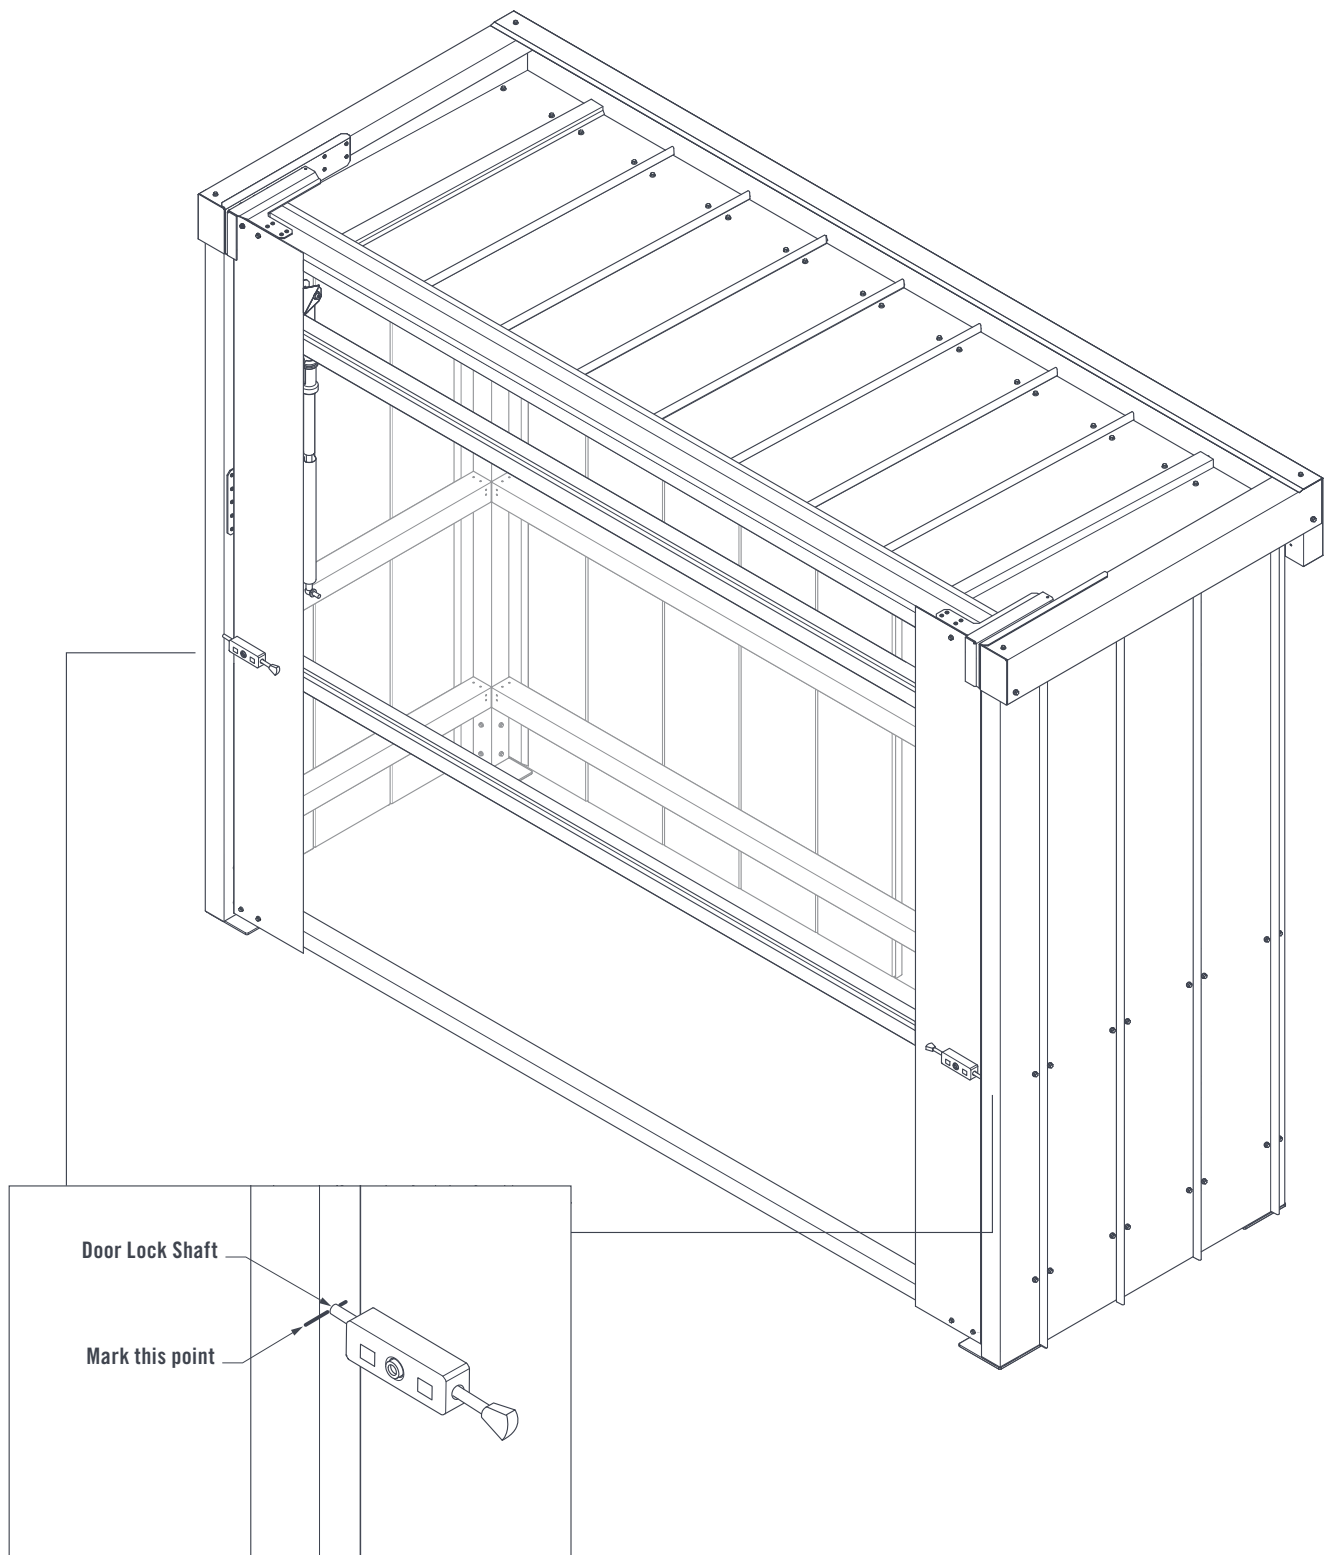
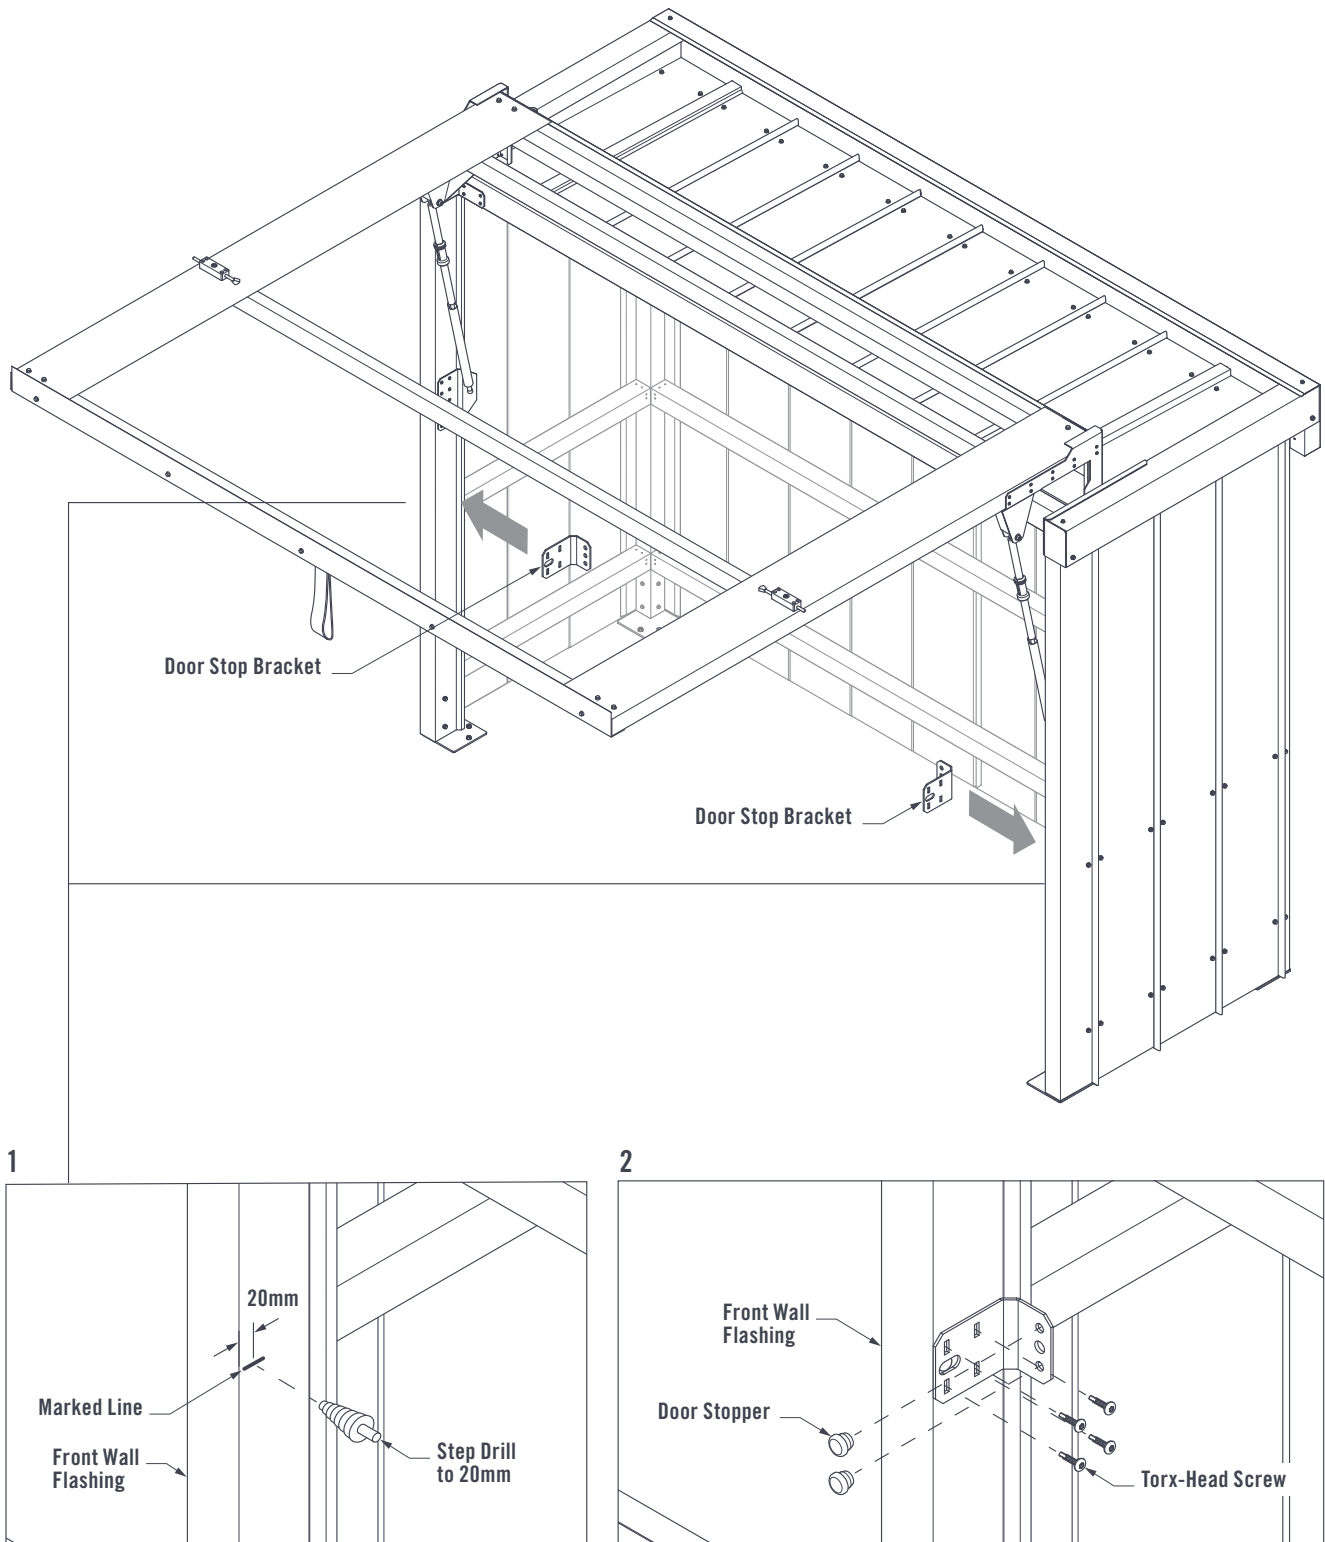

FIGURE 10.3
FIGURE 10.7
Mark the location of both Door Lock Shafts against the Front Wall Flashings (Figure 10.3).
- 1) Using the mark from **Figure 10.3** as a guide, measure and mark the location of the Door Lock Shaft hole 20mm from the front edge of the Front Wall Flashings (Figure 10.7) Use a Step Drill Bit to drill a 20mm hole through the Front Wall Flashings.
- 2) Fit two Door Stop Brackets to the Front Wall Flashings. Ensure the elongated hole of the Door Stop Bracket is in-line with the drilled hole. Fasten both Door Stop Brackets to the Front Wall Flashings using four Torx-Head Screws through the pilot holes in each bracket. Fit two Door Stoppers through the outer holes of both Door Stop Brackets (Figure 10.7).